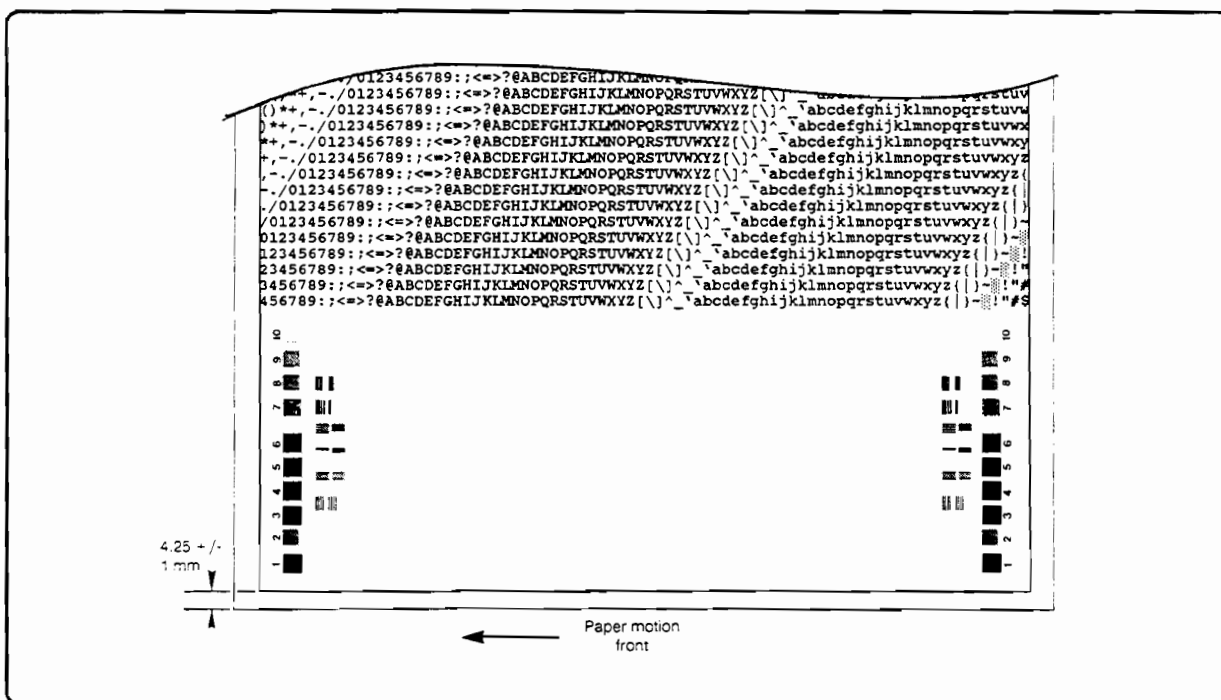

Figure 6-135. PDX Unit Adjustment
2. Measure the distance between the front edge (edge toward the front of the printer) and the starting point of the border, as shown in Figure 6-135. The distance should be within the range $4.25 \pm 1\text{ mm}$.